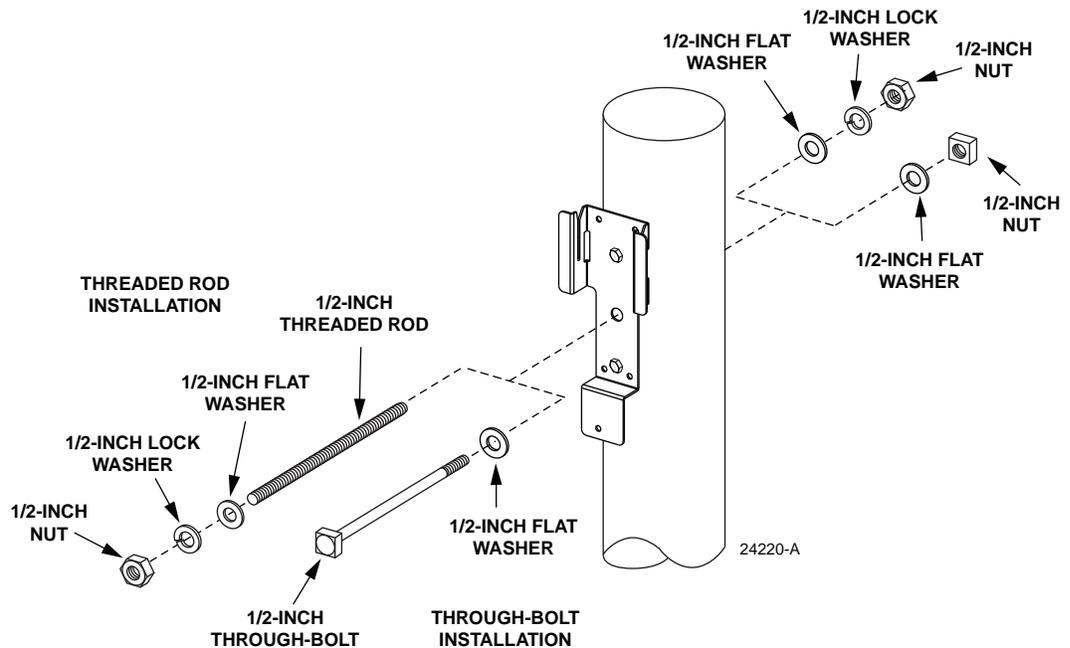

Figure 4. Threaded Rod or Through-Bolt Installation
- ▶ **Note:** If the utility pole is in good condition, the two 3/8-inch lag screws will provide sufficient strength and holding power to permanently attach the cabinet to the pole. If the utility pole is in poor condition, it is recommended that **in addition** to the lag screws, a 1/2-inch threaded rod or through-bolt be used to secure the mounting bracket to the pole. Refer to Figure 4 for the recommended installation procedure.